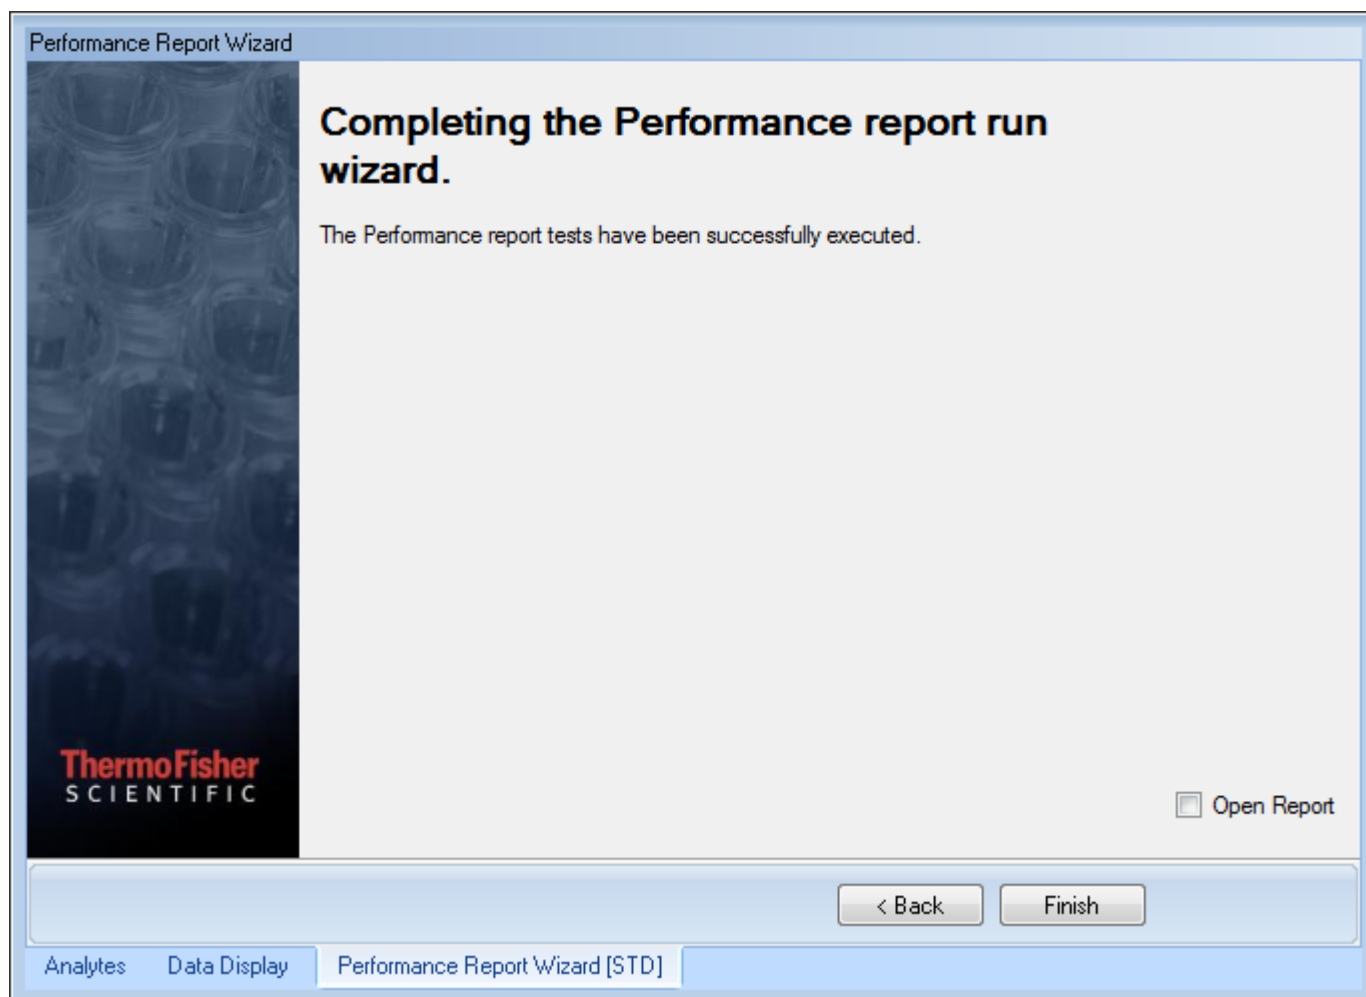

Figure 4-42. Completing the Performance Report wizard
10. Click **Finish** to complete the Performance Report Wizard, see Figure 4-42.